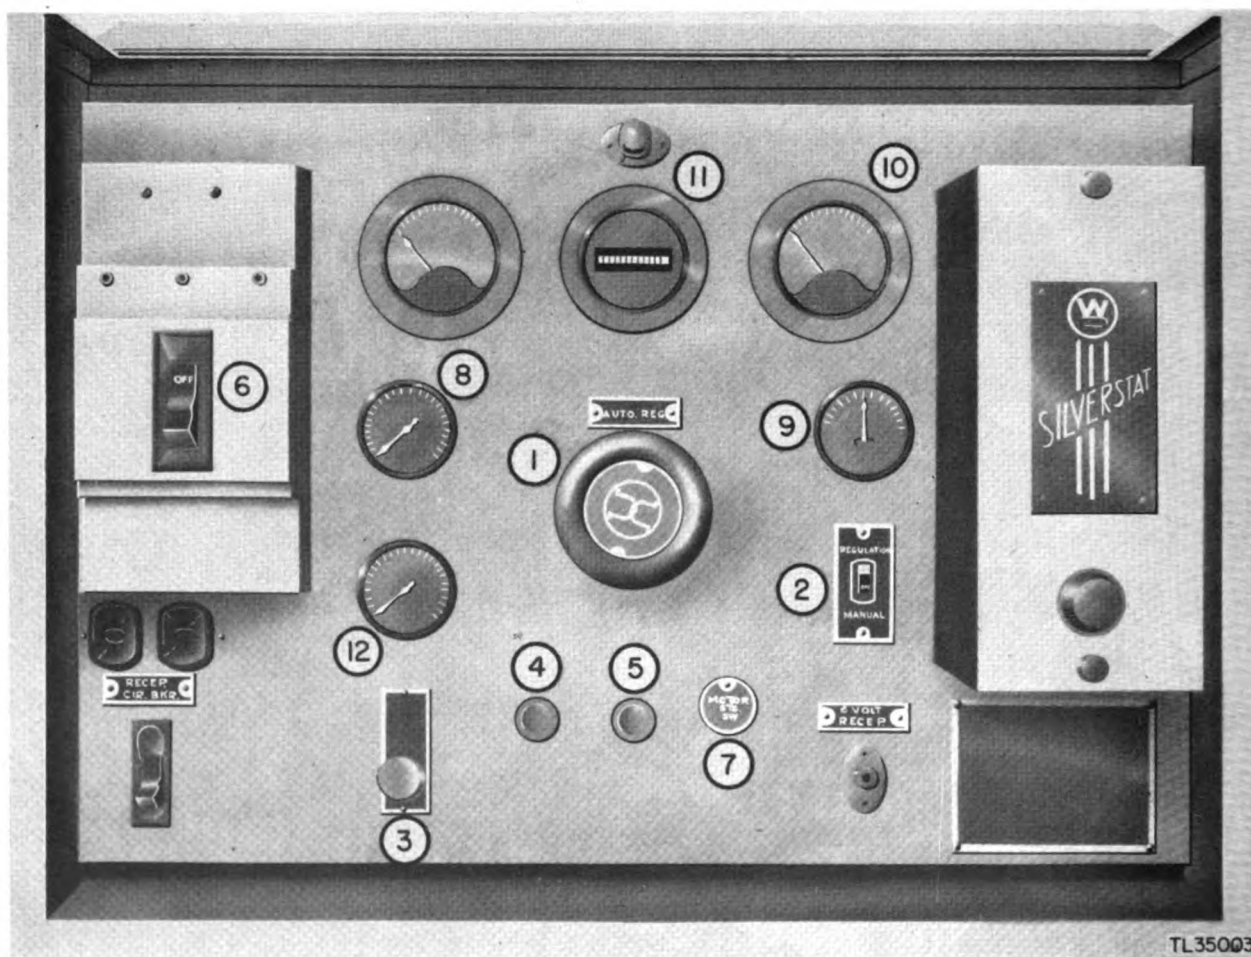

Figure 35. Power Unit PE-127-A controls.
(9) Apply the load by throwing the **CIRCUIT BREAKER** ③ switch to the ON position and proceed with the regular starting procedure of the radar set itself.
(10) When the radar set has been shut down, turn the generator off by opening the **CIRCUIT BREAKER** ③ and, after a few minutes, turning the **IGNITION** switch ① to the OFF position.
c. POWER UNIT PE-127-A (FIG. 35).
(1) Turn the **FIELD RHEOSTAT** ① to the AUTO position and turn the **VOLTAGE REGULATOR** switch ② to the ON position.
(2) Turn the **IGNITION** switch ③ to the ON position. When the engine starts and the oil